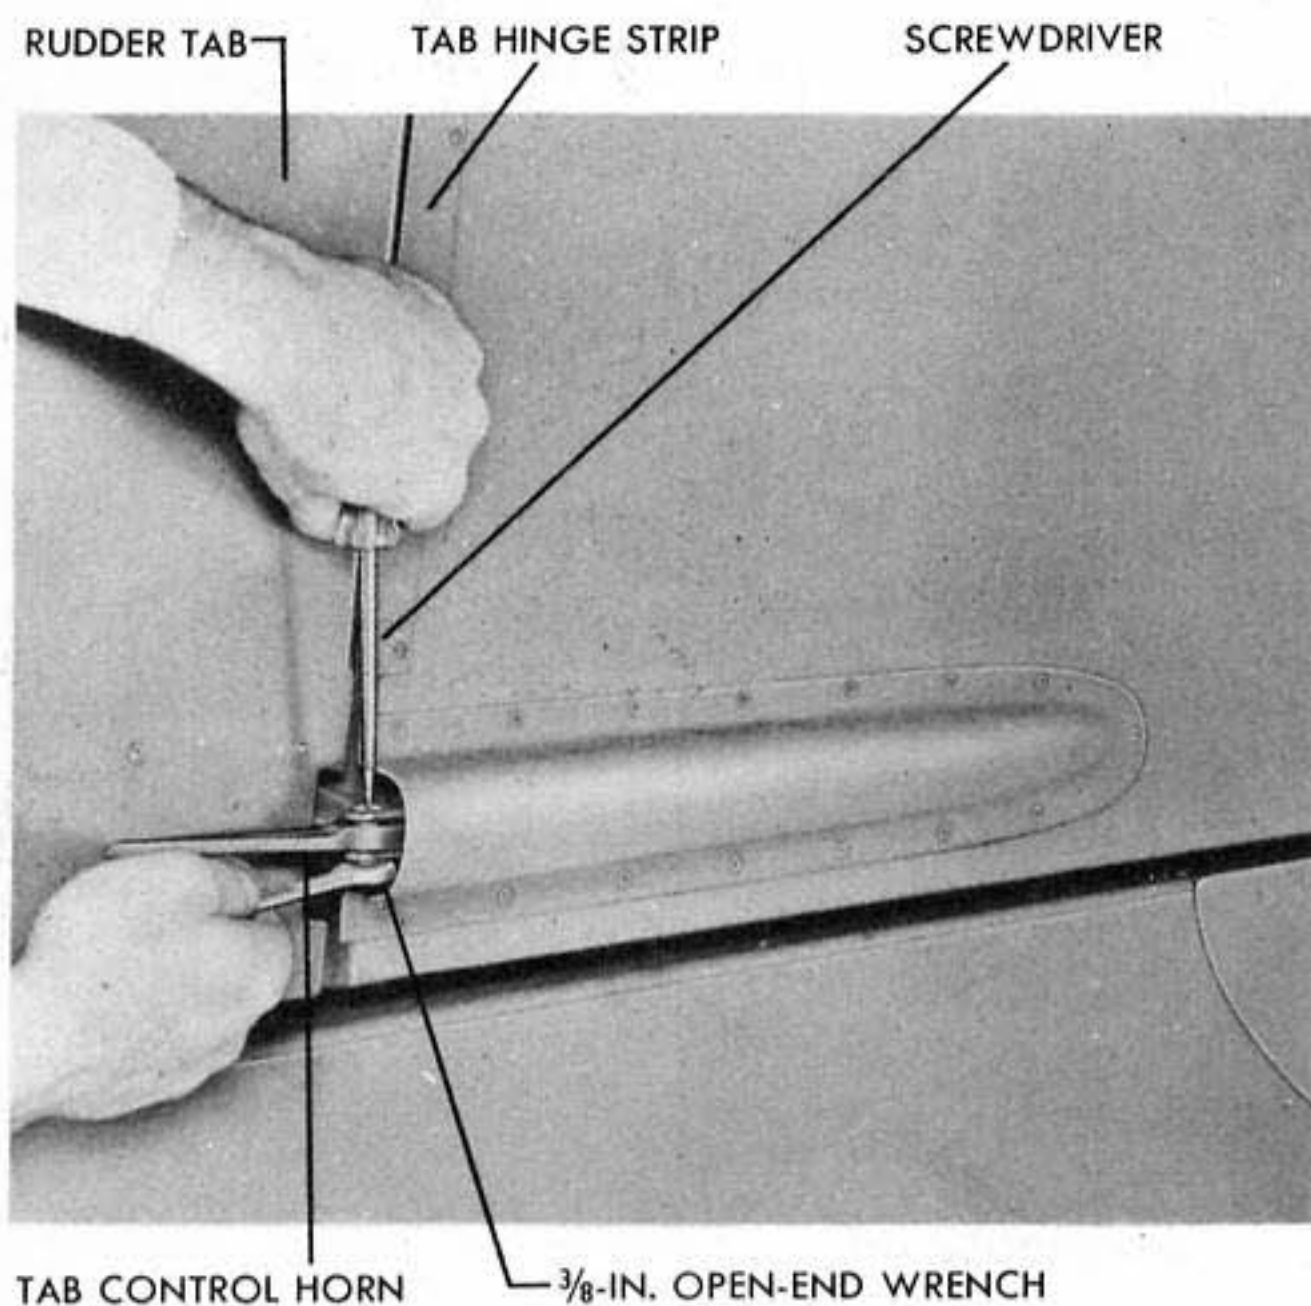

Figure 41 - REMOVING RUDDER TAB
(4) REMOVAL OF RUDDER TAB. (See figure 41.)
(3) INSTALLATION OF RUDDER TAB. (See figure 41.)